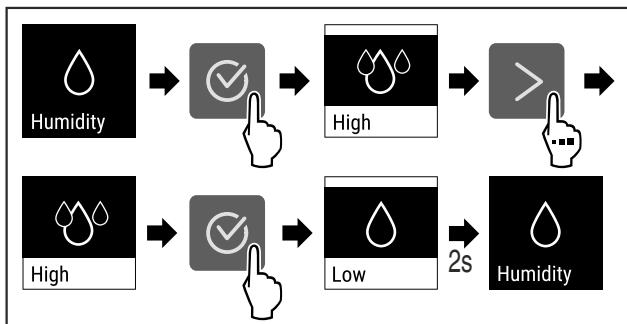

Fig. 75
- ▶ Complete the steps (see Fig. 75) .